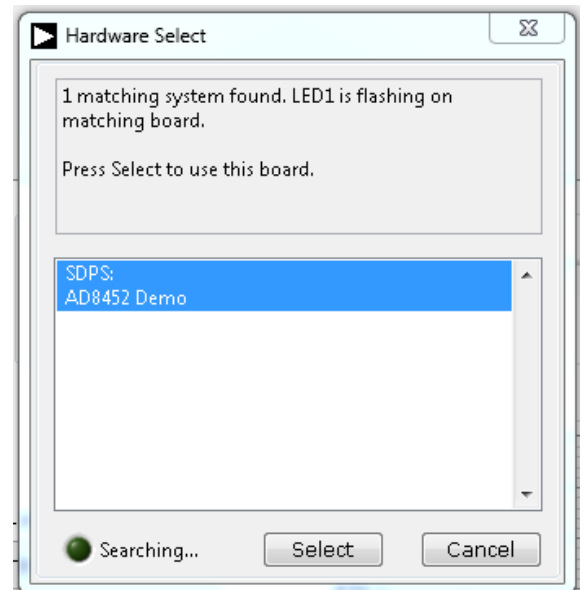

Figure 13. *Software Detects Evaluation Board*
3. When the AD8452 analog interface board is detected, the message in Figure 13 displays. Click **Select** to continue.